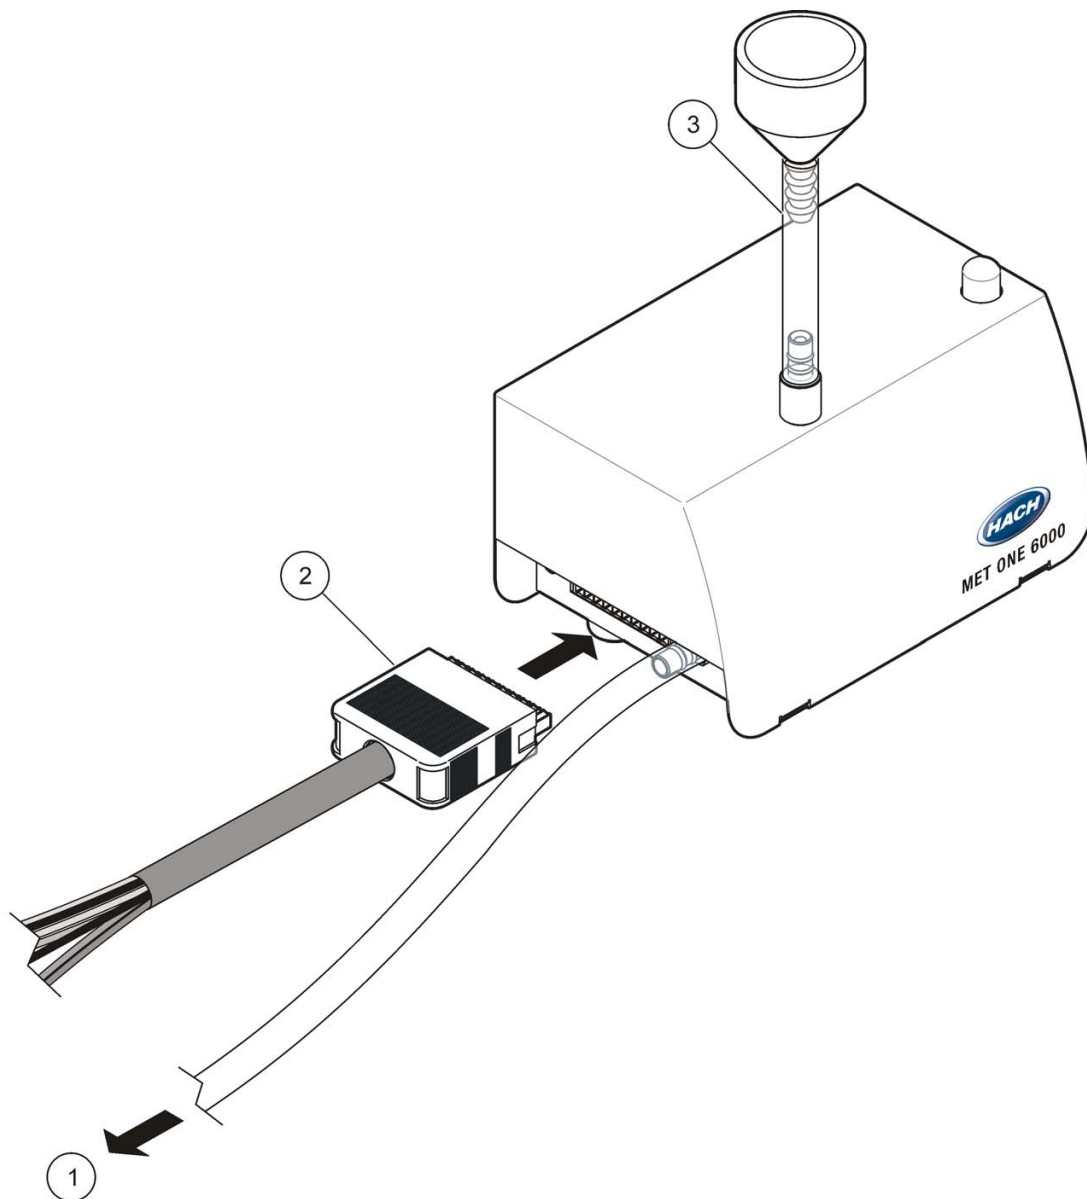

Figure 6 Installation overview
The tasks that follow are necessary to install the particle counter (refer to Figure 6):
- Direct mount—the probe is installed on a short piece of tubing directly on top of the counter (Figure 6). Use this probe when the particle counter can be located where the sample is collected. Use the direct mount probe to keep particle loss to a minimum.